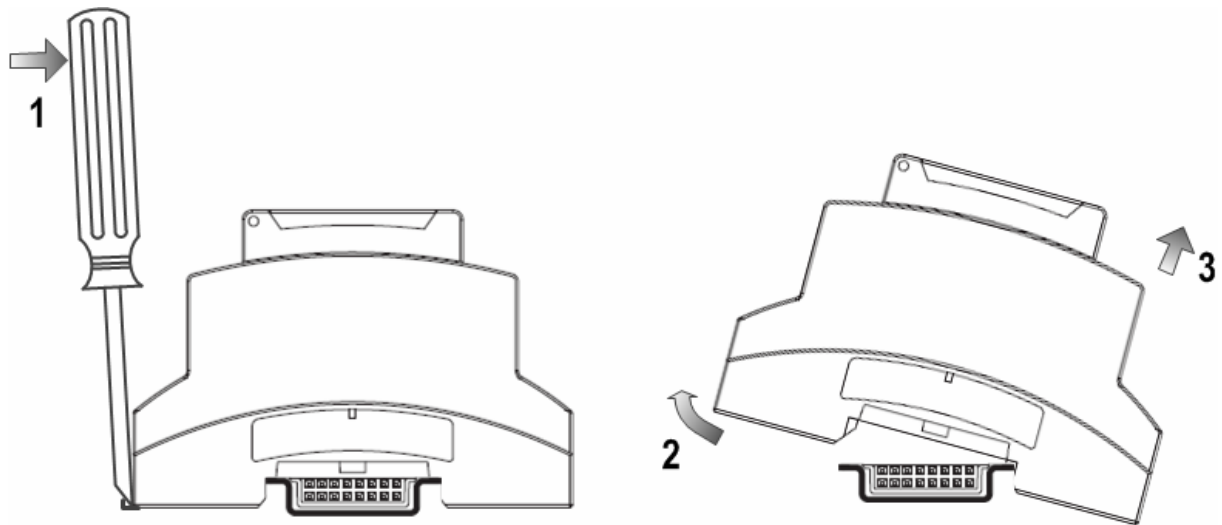

Figure 3-5 Removal Diagram of Modules
- 2) Use a flat-blade screwdriver (medium or small) to lift the buckle on either side as shown in the 1st step in Figure 3-5.
- 3) Then rotate the module as the 2nd step shown in Figure 3-5.
- 4) Remove the module from the rail as shown in the 3rd step shown in Figure 3-5 and removal is completed.